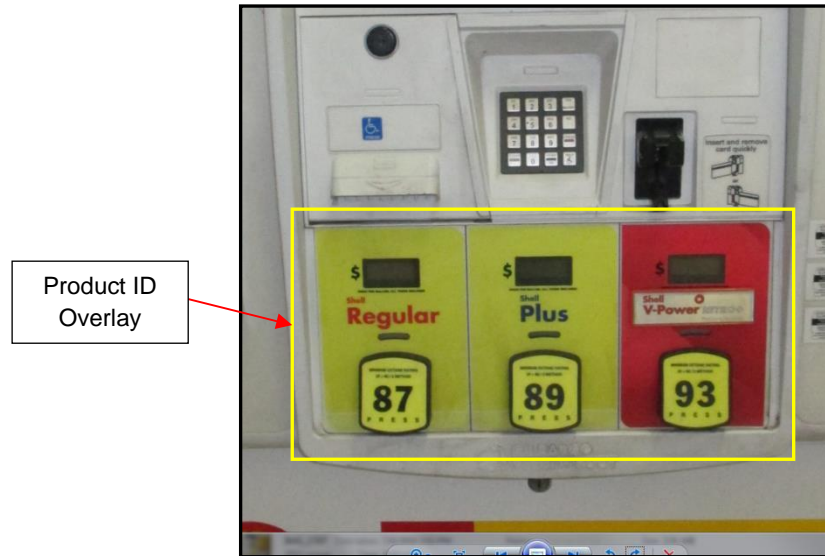

Fig 1.12 – Location of Product ID Overlay
14. Remove the Product ID Overlay to expose screws. (Fig 1.12)